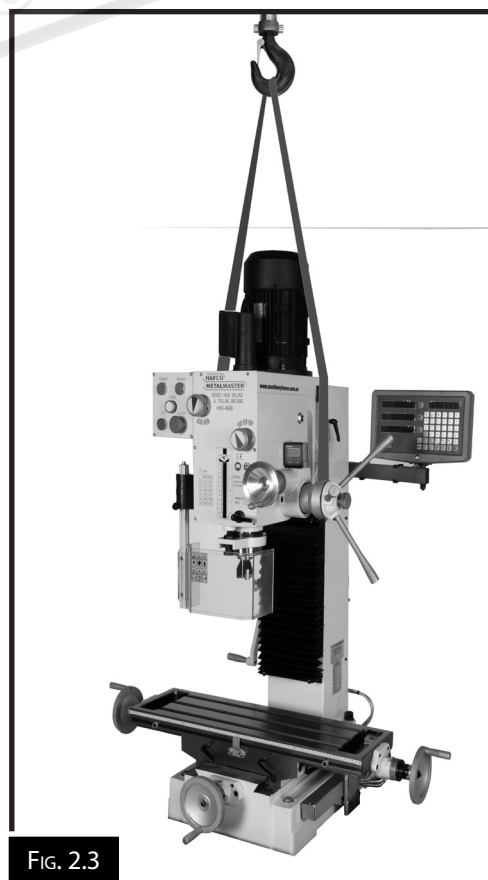

FIG. 2.3
4. Place a lifting strap under headstock, as shown in Fig. 2.3, connect strap ends to a forklift or hook, then lift and place machine on the workbench or on the optional stand.